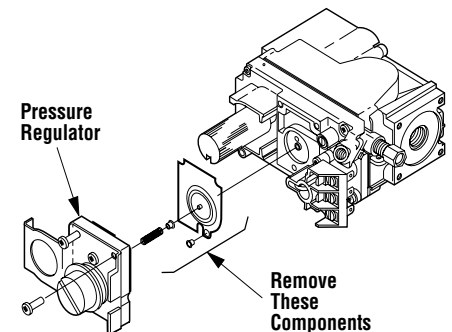

Figure 25
Step 4. SIT Systems - Refer to *Figure 25* and the instructions provided with the kit. Using a Torx T20, remove and discard the three pressure regulator mounting screws. Remove the pressure regulator, spring, poppet, diaphragm and bushing. **Discard all removed components.** Ensure the rubber gasket installed on the back of the replacement pressure regulator is properly positioned and install the new pressure regulator using the new screws supplied with the kit. Tighten screws to 25 In. lb. torque.